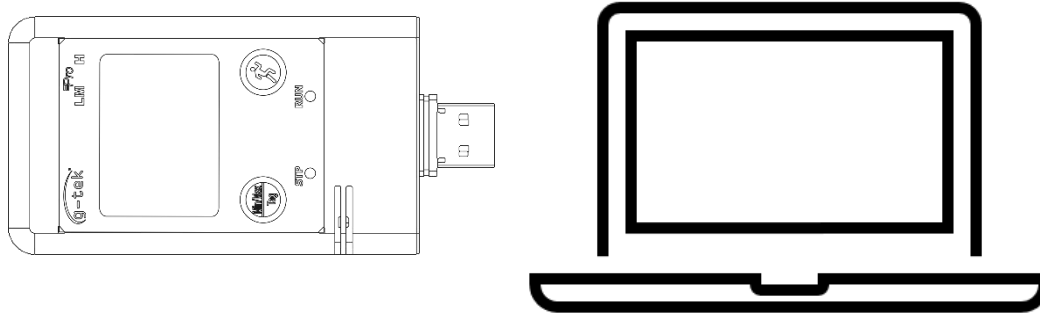

Figure 12 USB Type- A connection
- Connect the LM^{Pro} H data logger with Windows PC via the USB port, as shown in figure 12.